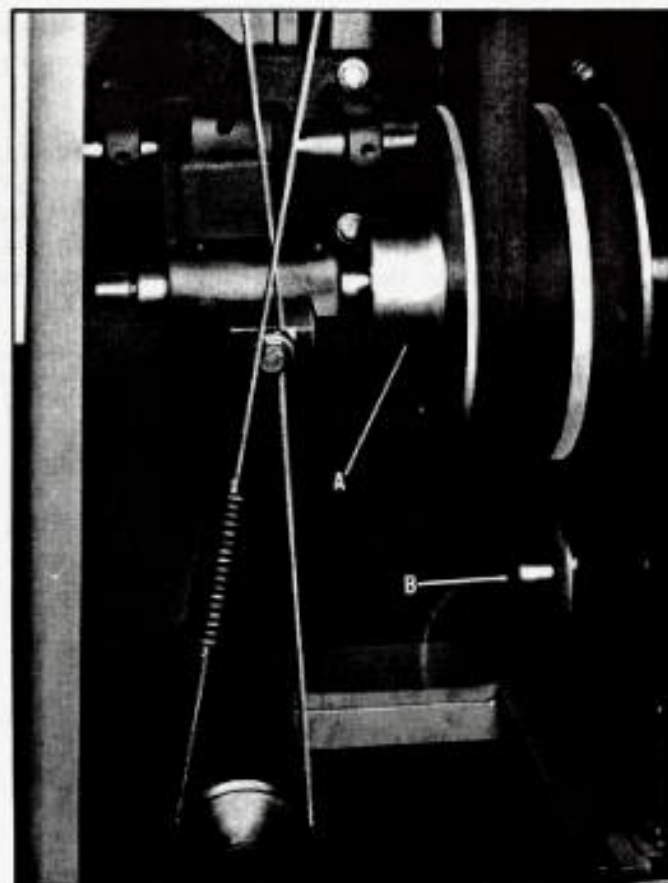

Fig. 3.
4. Turn the variable speed control lever counter-clockwise until the variable speed pulley (A) Fig. 3, is completely lowered.